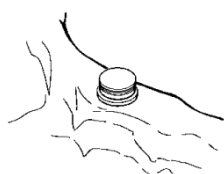

Fig. C2
3. Insert a LOCATOR® Denture Cap Processing Male Assembly onto each LOCATOR® Implant Abutment, leaving the White Block-Out Spacer beneath it. (Fig. C2) The Black Processing Replacement Male will maintain the overdenture in the upper limit of its vertical resiliency during the processing procedure.